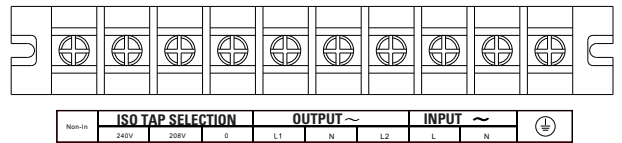

Fig. 17. Physical arrangement of the terminals of the terminal block
- Either by removing the female connector from the socket where it is inserted. This connector has a cable connected as a jumper that closes the circuit [see Fig. 17-A].
- Or by pressing the button external to the device belonging to the user installed between the terminals of the connector [see Fig. 17-B]. The connection on the button must be in the normally closed contact (**NC**), so it will open the circuit when activated.
-  Fig. 17-A: In the case of a parallel system, individual contacts must be used. Do not join the EPO contacts with each other under any circumstances.